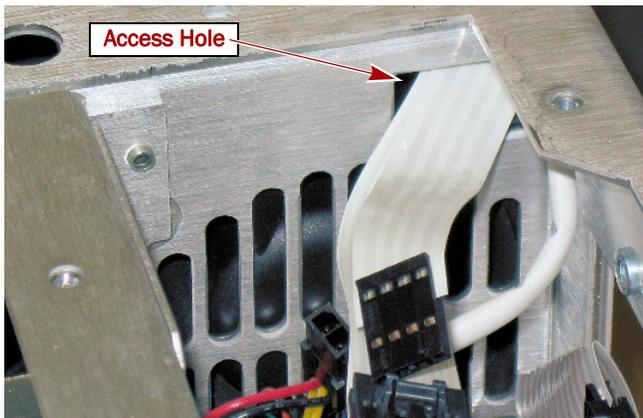

Figure 4. Access Hole Behind the Card Cage PWA
2. Pull the two cables out of the Card Cage access hole (Figure 4).